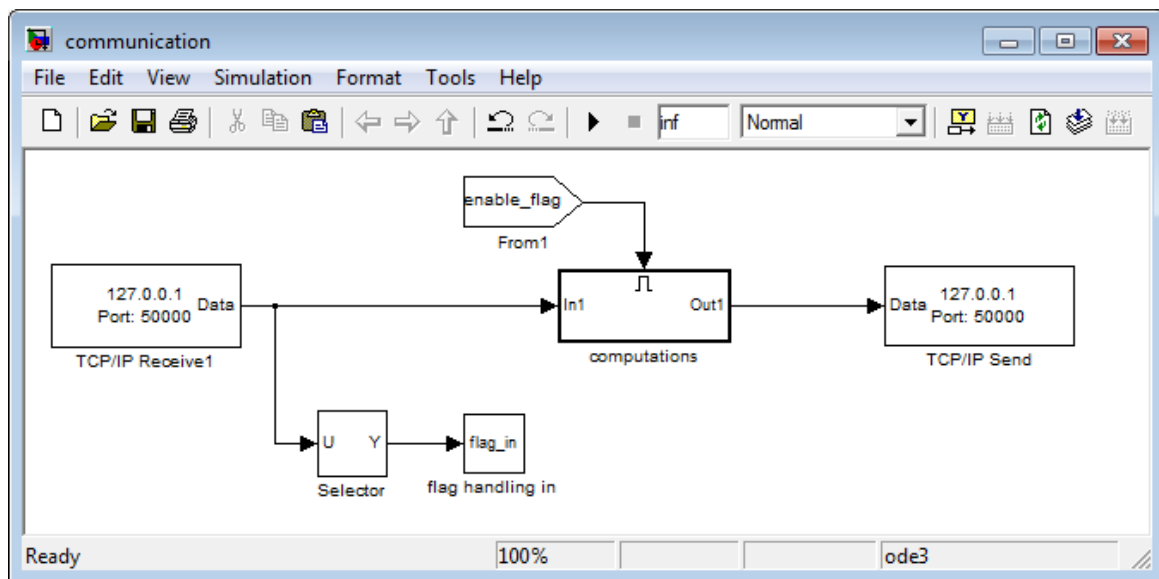

Figure 3.50: TCP/IP communication with Matlab/Simulink (do not change this structure)
(1) Start Matlab/Simulink and open the file `communication.mdl` in the folder “examples/TCPIP”, see figure 3.50.